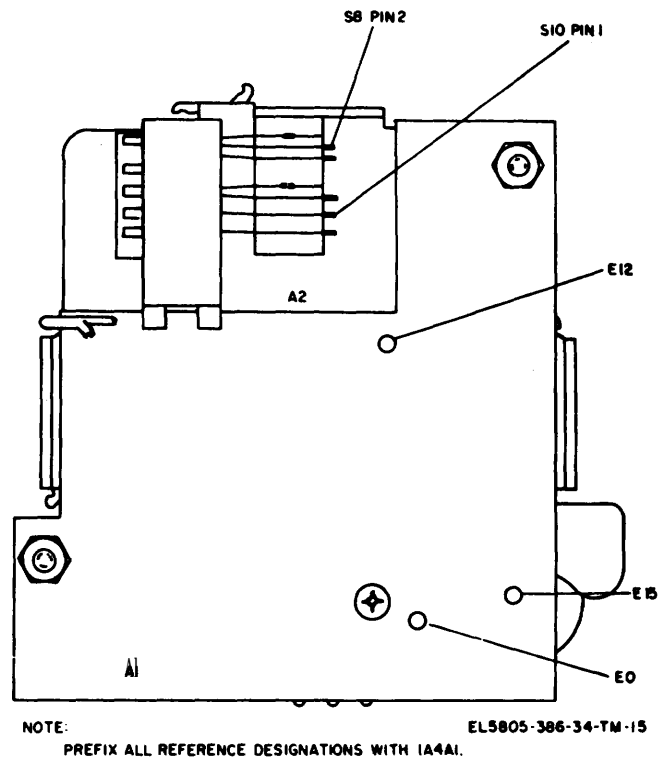

Figure 2-11. Keysender and oscillator assembly terminal location.
- (3) Release keysender and oscillator assembly from the front panel by removing the two screws (located on front panel, one on each side of keysender), spacer, washers and associated nuts.
- (4) Carefully remove keysender and oscillator assembly from front panel and draw it through space between module case and tilted common printed wiring board.
- (5) Tag and unsolder only wires connected to terminals identified in figure 2-11. Do not